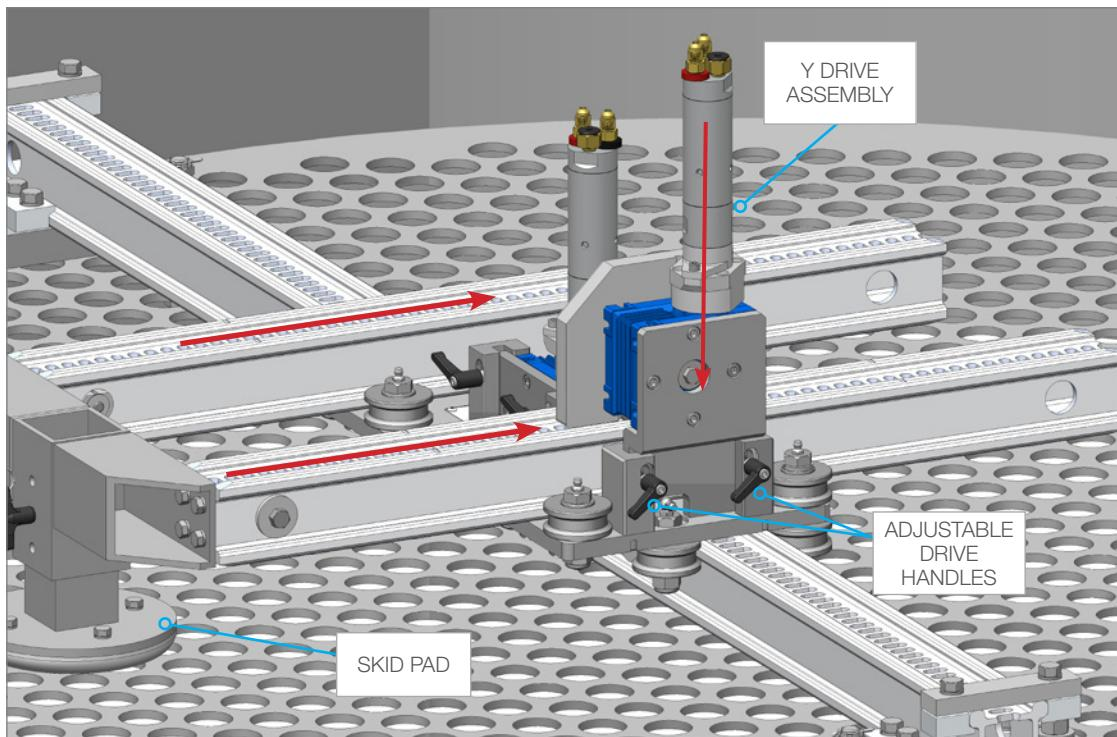

FIGURE 39
6. Rotate the Adjustable Drive Handles on the Y Drive Assembly counter-clockwise to disengage the drive gear. This will allow the Y Rail Assembly to slide under the Y Drive Assembly. (**Figures 39**)
8. Once the Y Rail Assembly is inserted, release the Adjustable Drive Handles on the Y Drive Assembly so the gear is engaged. (**Figure 39**)